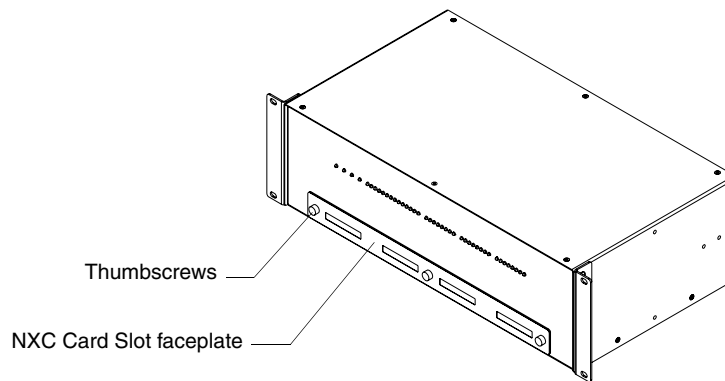

FIG. 19 NI-4000 front faceplate
2. Remove the three screws by turning them in a counter-clockwise direction and then remove the faceplate (FIG. 19).
3. Remove the faceplate from the front plate (FIG. 19 on page 33).